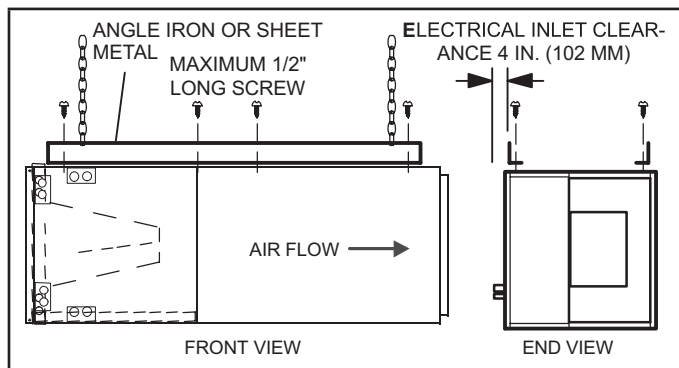

FIGURE 3. Suspending Horizontal Unit
- 5 - If the unit is suspended, the entire length of the cabinet must be supported. If you use a chain or strap, use a piece of angle iron or sheet metal attached to the unit (either above or below) to support the length of the cabinet. Use securing screws no longer than 1/2 inch to avoid damaging the coil or filter. See figure 3. Use sheet metal screws to connect the return and supply air plenums as required.
- 13 - If suspending the unit, it must be supported along the entire length of the cabinet. If using chain or strap, use a piece of angle iron or sheet metal attached to the unit (either above or below) so that the full length of the cabinet is supported. Use securing screws no longer than 1/2" to avoid damage to coil or filter, as illustrated in figure 3. Connect return and supply air plenums as required using sheet metal screws.